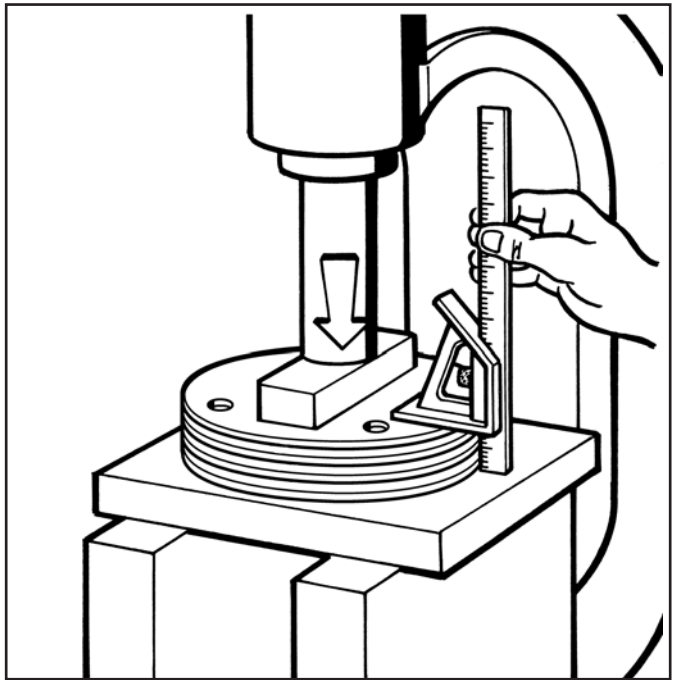

Figure 6.1 - Measuring Stack Height
Measure the stacks as shown in *Figure 6.1*. **Always measure each stack separately.**
10. Check the Brake Stack Height for wear as indicated in **Section 6-2** and shown in *Figure 6.1*.